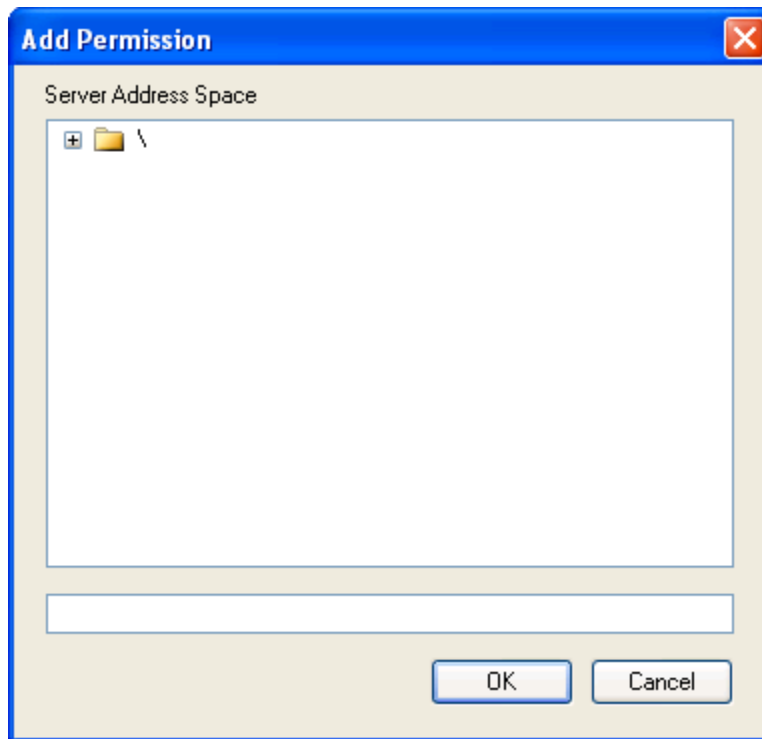

Figure 87 - Add User Permission Window
2. The **Add User Permission** window (Figure 87) appears. This window allows you to browse the OPC server address space to find either a path in the hierarchy, or a particular OPC item.